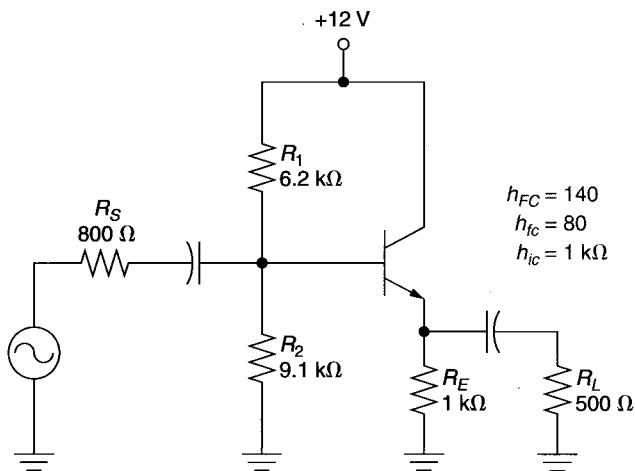

FIGURE 10.22
- Calculate the gain and impedance values for the circuit in Figure 10.22.
28. Refer to Figure 10.22. The dc emitter voltage for this circuit is approximately 1.7 V. Discuss the possible causes for this problem.